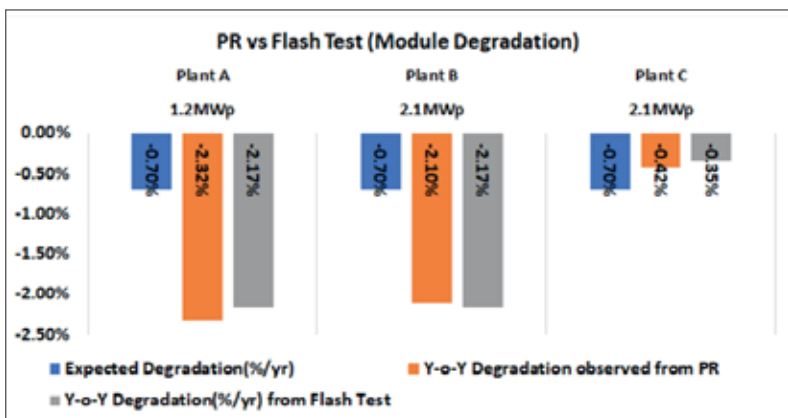

Figure 2. Module degradation obtained from PR versus tested module samples
Data from tested modules using this sampling methodology has been validated with the degradation obtained from the performance ratio (PR). A few examples of plants are shown in Figure 2. Plant A with 1.2MWp capacity was first analysed using daily generation data, where the module degradation based on the PR value is calculated. Then based on the plant capacity and performance of the inverter and watt peak rating of the module, flash testing is performed on modules. Based on the plant capacity the number of samples is selected as given in Table 1. It has been observed that in Plant A the degradation of modules obtained from flash testing is essentially the same as the yearly degradation obtained from PR, hence the sample selected for testing is representative of plant performance.